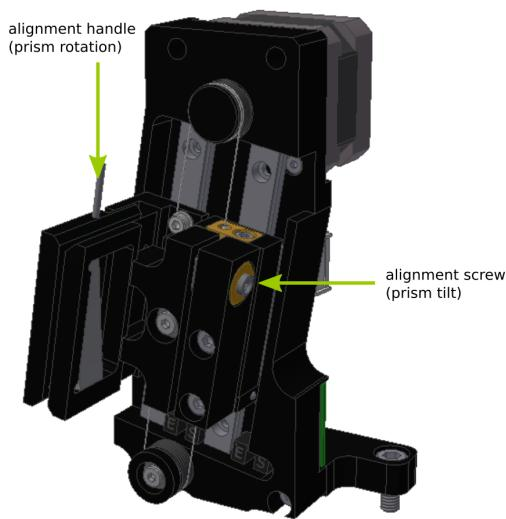

Figure 2.5: Delay compensator of the HarmoniXX THG . Note the alignment possibilities.
mirror M2. In the collimated beam between these two mirrors there are two additional optical elements. The first is the optical delay compensator **DC1**, see Figure 2.5. It allows to compensate for the temporal walkoff between fundamental and second harmonic that is acquired during propagation through the optical crystals and compensators due to dispersion. It is made from two birefringent wedges that are moved in the vertical direction.
- Loosen the Delay Compensator (see Figure 2.5) from the baseplate and move it out of the beampath to its park position. Fix it there.